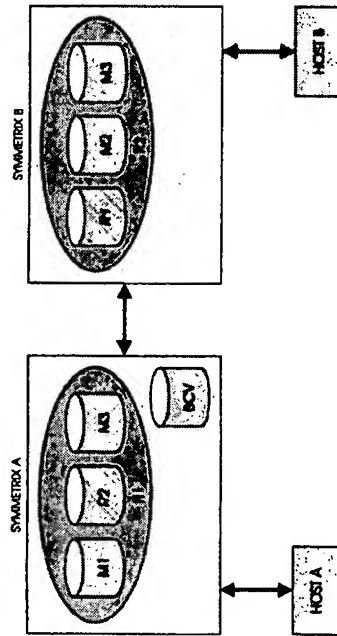

Figure 10. SRDF System
If the Business Continuity Volumes (BCVs) are used in conjunction with source (R1) devices (see Figure 10 for a sample SRDF system), all Business Continuity (BC) processes operate in the manner described in Chapter 3, with the clarifications provided in the following sections.
In order to maximize the efficiency of the copy operation, Symmetrix copies the data locally from the standard device mirrors (M1 and M3 in Figure 10) unless problems or data unavailability necessitates obtaining the data from the target (R2) device in the Symmetrix unit attached to host B.